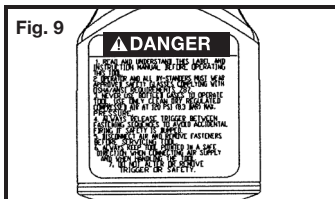

Fig. 9
15. **Do not use tool without safety warning label.** If label is missing, damaged or unreadable, contact your Porter-Cable Service Center for a replacement. Fig. 9.